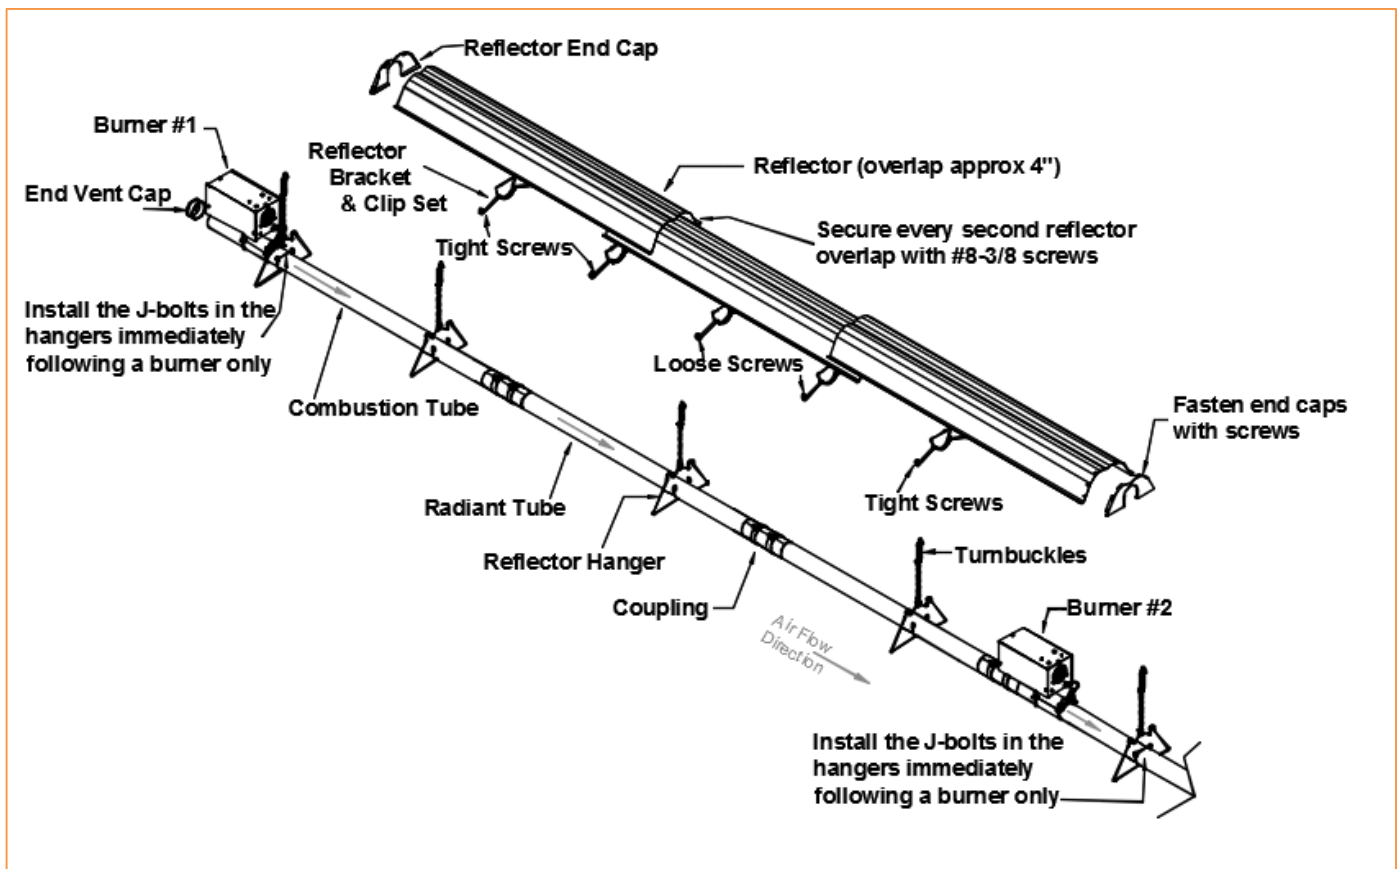
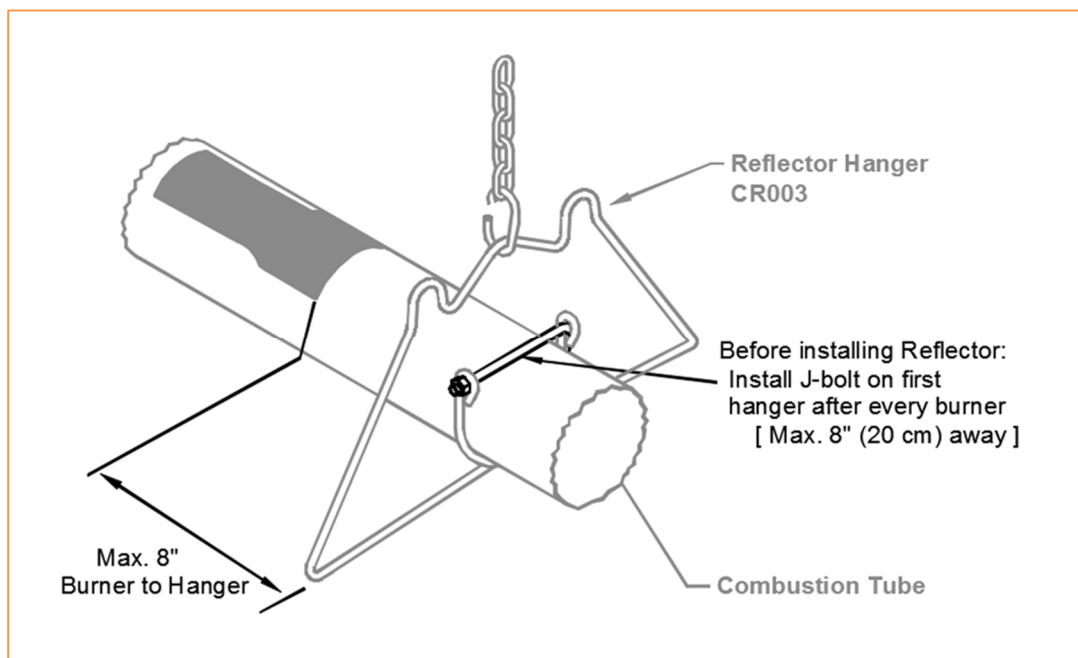
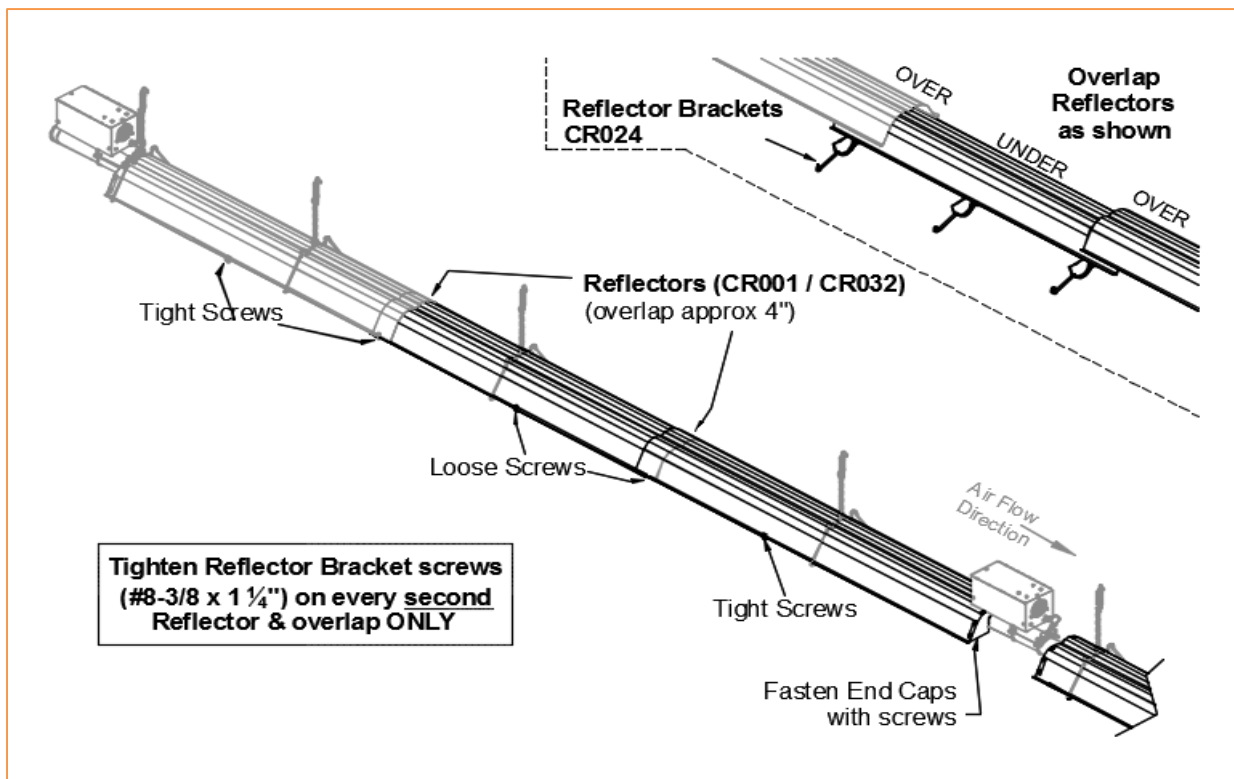

Figure 9: Radiant Line System - Component Relationships
Figure 18: J-Bolt Installation Detail
Figure 24: View of System after Installation all Reflectors
Figure 9 illustrates the relationship of many of the various components of the Radiant Line System and will be a useful reference at many times during the installation.
2. Use the J-bolt (included with the Burner packaging) to clamp the Tube snugly at the first Reflector Hanger after a Burner mounting hole location. This prevents the Tube from twisting once the Burner is installed. (Refer to Figure 9 and Figure 18)
4. Install Reflector Brackets. Place one at each Reflector overlap position and one in the middle of each 10 ft. (3 m) Reflector length. Secure the Brackets loosely with #8 x 3/8" screws. **Tighten only** the screws for Brackets in the centre of alternating Reflectors and at every second overlap location. The remaining Reflector Bracket screws are left loose to accommodate system movement/expansion. Refer to Figure 24 and to Figure 9 for a visual of which bolts to tighten and which to leave loose.
5. Continue to slide the Reflectors into place within the Tube/Reflector Hanger up to the next Burner position. Overlap the Reflectors as shown in Figure 9 and Figure 24.